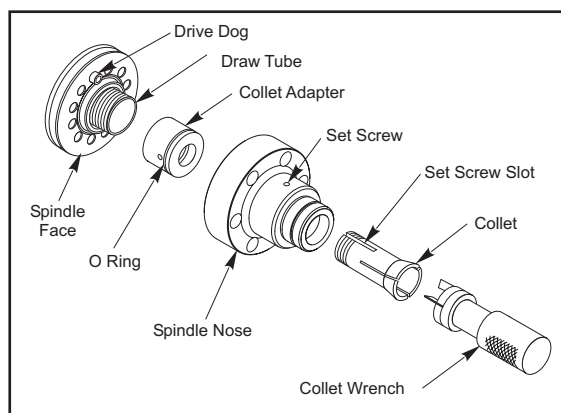

Figure 1
2. Remove the three (3) screws that mount the center cup (or plate) from the center of the chuck and remove the cup.
3. Clamp the chuck and remove the six (6) SHCS that mount the chuck to the collet. See figure 1.